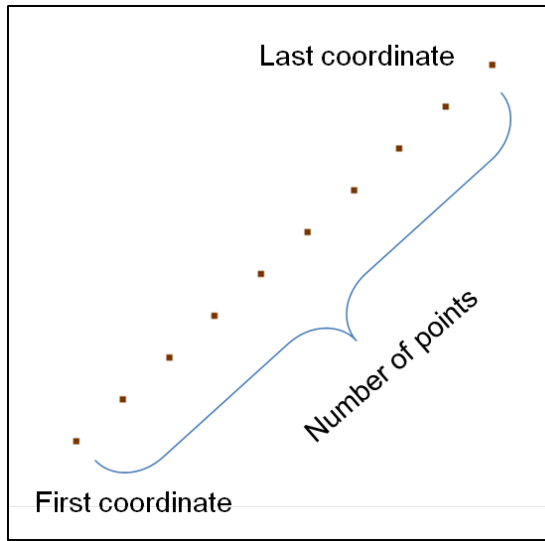

Figure 13.15: Creating field points using Cartesian method
- Cartesian method: to create a straight line of field points, as shown in Figure 13.15 ;